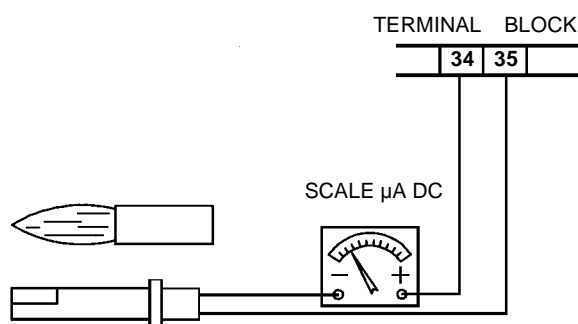

Fig. 19
- inspect and thoroughly clean the flame detector photoresistor. Replace if necessary. If in doubt, when the burner is operational, check the detection circuit following the diagram in Fig. 19;
To measure the detection signal, follow the diagram in Fig. 19.